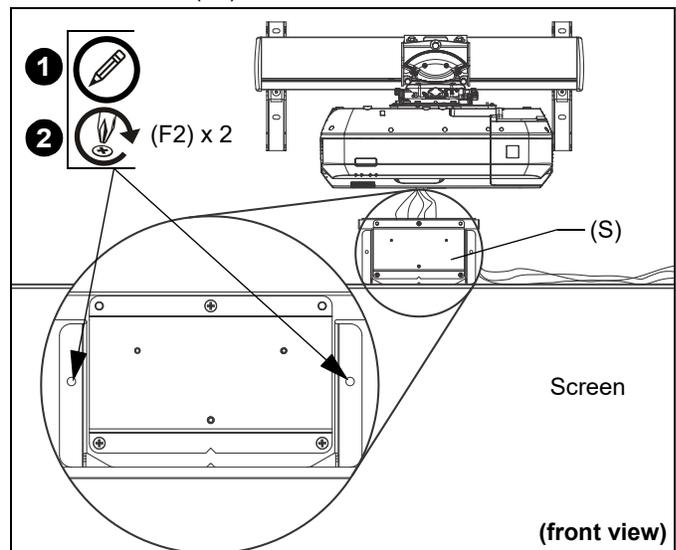

Figure 27
1. Center sensor mount assembly (S) over screen and mark mounting holes (one on left and one on right). (See Figure 27)
2. Install sensor mount assembly (S) using:
- Wood/steel studs/drywall: one #8 x 1-1/2" screw (F2) into each side of sensor bracket. (See Figure 27)